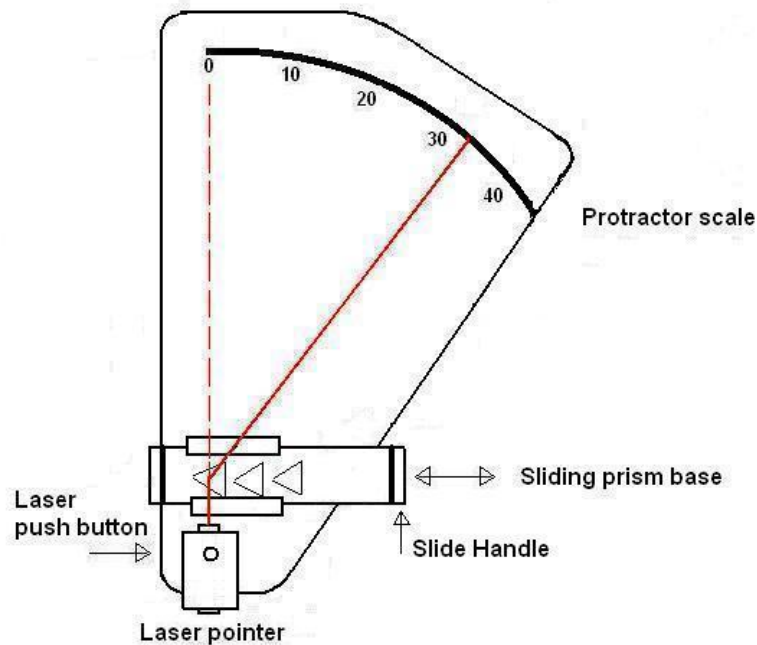

Fig 7
- Press the button to turn on the laser pointer. See Fig 7.